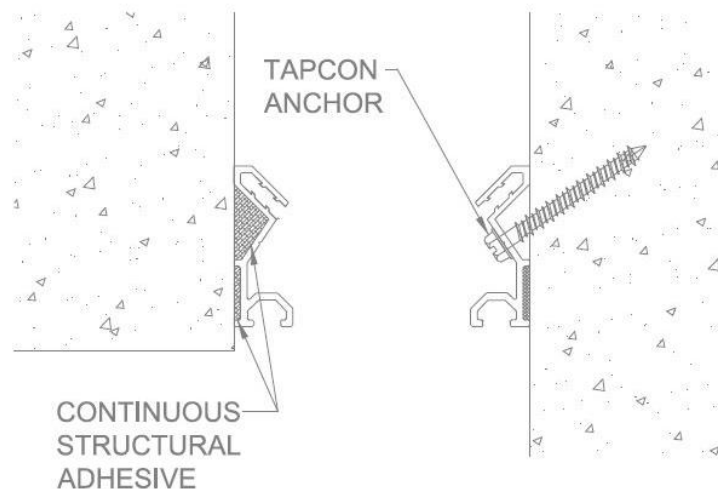

FIGURE 3
3. Apply structural adhesive (by installer) along the back side of the other extrusions prior to installation. (Follow adhesive manufacturer's guidelines) Mount the extrusion to the inside surface as shown, making sure it lines up with the wall extrusion. Extrusions should be flush to substrate to ensure a weathertight seal. (Also refer to shop drawings for more detail). **See Figure 3.**